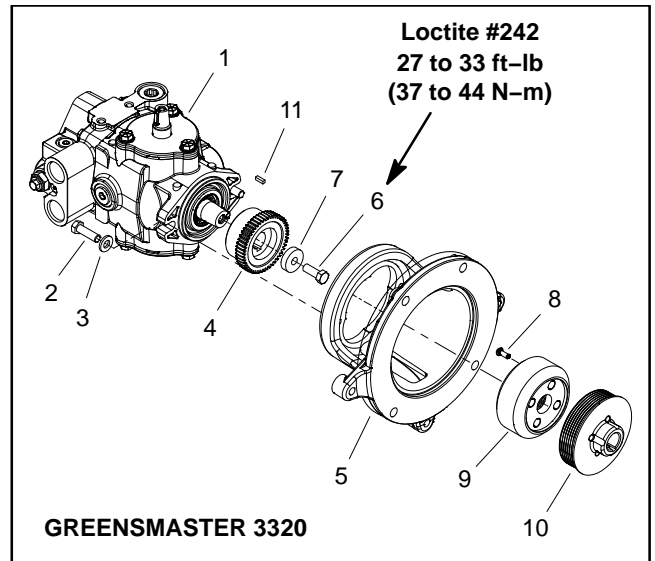
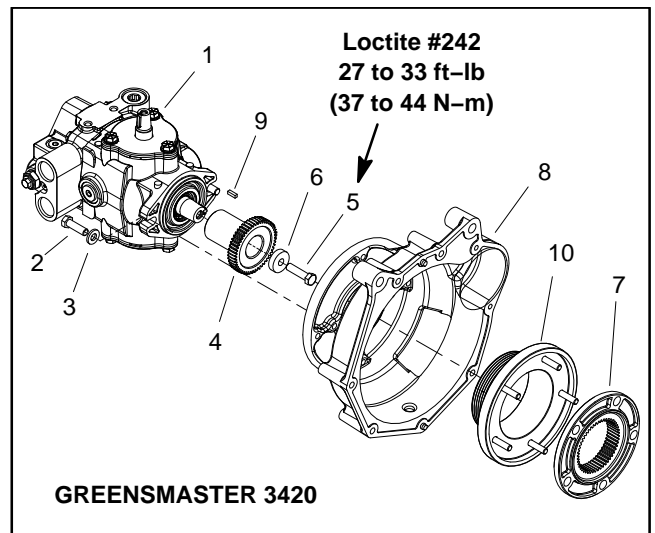

Figure 40
Figure 41
2. Disconnect the traction control cable ball joint (item 20) from the pump lever. Loosen traction control cable jam nuts that secure traction control cable to the cable support. Position cable away from the pump assembly.
5. Clamp pump suction hose (item 9) to prevent draining the hydraulic reservoir.
9. Remove two (2) cap screws (item 23) and flat washers (item 24) that secure pump assembly to pump mount. Slide pump assembly away from the pump mount and coupling attached to engine. Remove pump from machine.
10. If necessary, remove coupling from pump shaft (Greensmaster 3320 machines shown in Figure 40 or Greensmaster 3420 shown in Figure 41). Locate and retrieve key from pump shaft.
3. If removed, secure pump coupling to piston pump shaft (Fig. 40 or 41):
6. Insert coupling on pump shaft into coupling attached to engine and slide pump assembly to pump mount. Secure pump assembly to pump mount with two (2) cap screws (item 23) and flat washers (item 24).